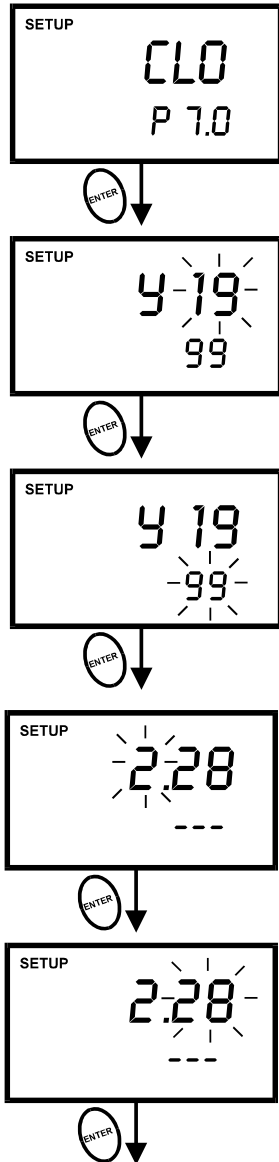

Figure 33 - P5.0: Setting century, year, month and date
6. Press the **MI/▲** or **MR/▼** keys to toggle to the correct year. See Figure 33.
9. Press the **ENTER** key to confirm the month and move to “date” selection. The “date” digits will flash. See Figure 33.